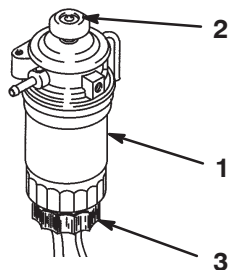

Figure 35
2. Press the primer button on top of the fuel filter until resistance is felt (Fig. 35).